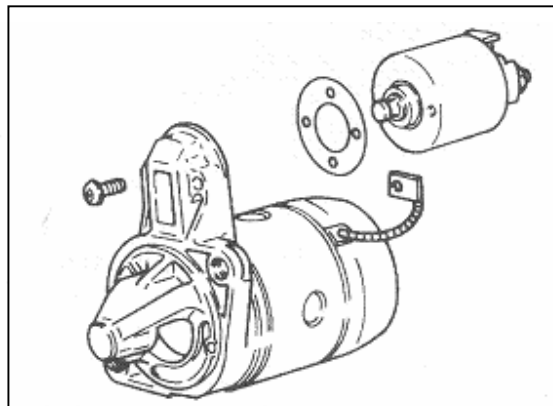

Fig. 9-5
- (5) If pinion gap is out of specification, adjust it by adding or removing gaskets between magnetic switch and front bracket. (see Fig.9-5)。